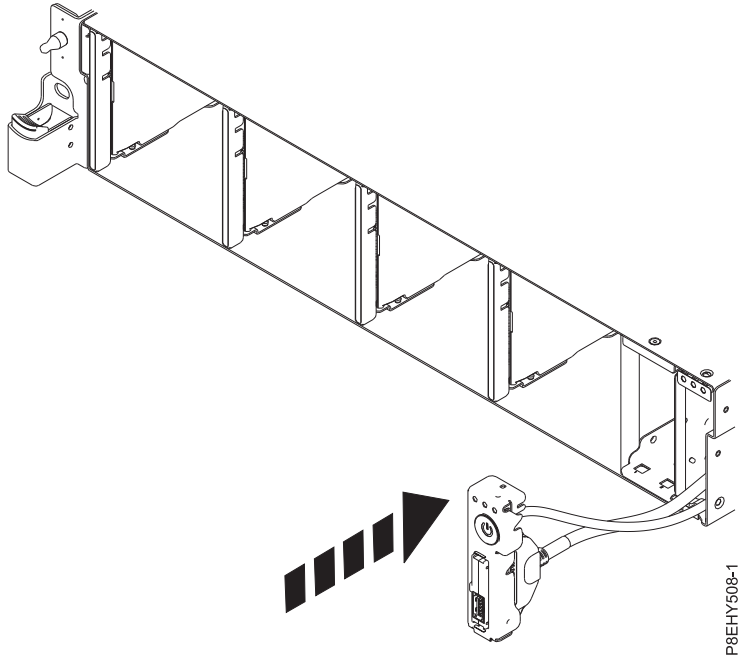

Figure 109. Replacing the power switch and cables
4. Insert the power switch and cables into the system. Be careful to route the cables through to the system backplane as shown in Figure 109 on page 91.